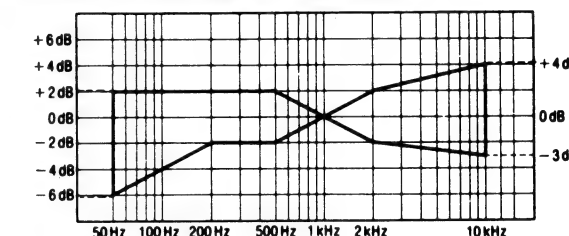

Fig. 17
4. Play back the test signals just recorded and verify that the levels at the test frequencies fall in the ranges specified in Fig. 17 with respect to the reference signal level.